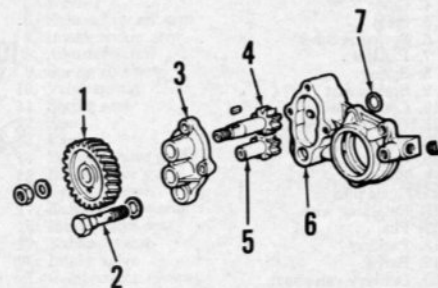

Fig. L3-18 - Exploded view of oil pump.
R&R AND OVERHAUL. The oil pump is mounted on the front of the engine and is accessible after removing the timing gear cover. Unscrew pump gear retaining nut then using a suitable puller, remove pump gear (1 - Fig. L3-18). Remove pump cover (3) and gears. Pump housing (6) surrounds the crankshaft and the crankshaft gear must be removed before pump housing can be removed. Note that screw (2) is drilled to allow oil flow through screw.